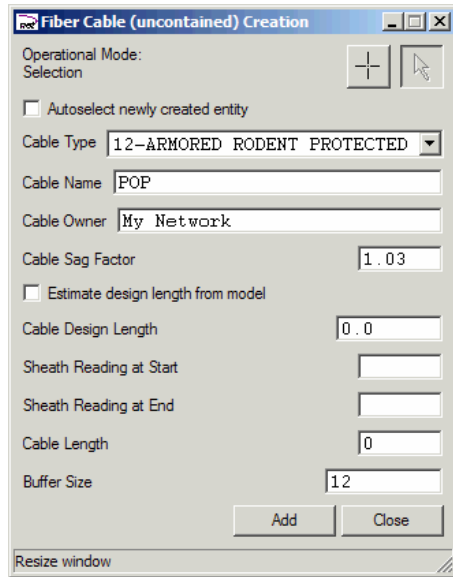

Figure 231 – Fiber Cable Creation Dialog
- Fill in the fields of the Fiber Cable Creation panel as shown in Figure 231, below.
- Ensure that the “Selection” arrow is selected in the **Fiber Cable Creation** Dialog, as in Figure 231, above, and also shown here: